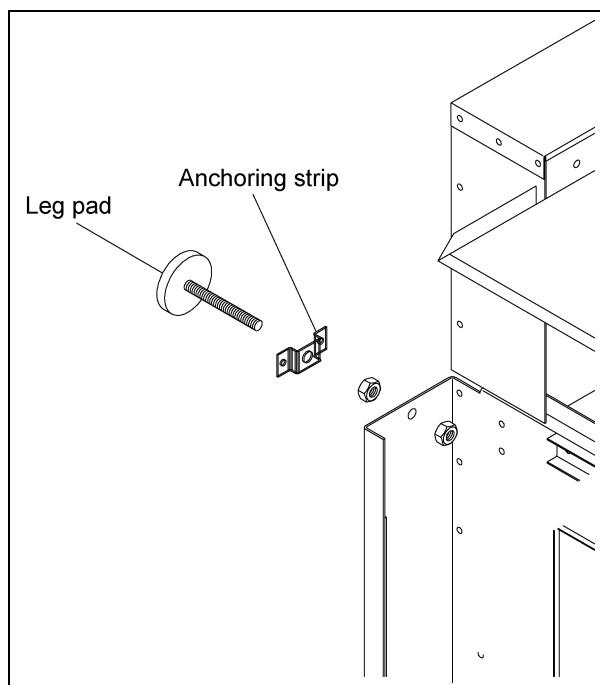

Figure 4W Anchoring Detail
6. Once collector is leveled and diverter tray is secured to the nest and table top, secure the collector to the floor and the wall. Use the leg pad anchoring strips to surround the leg pads and anchor to the wall and floor. Anchor to the floor in the same manner as shown in Figure 4W.